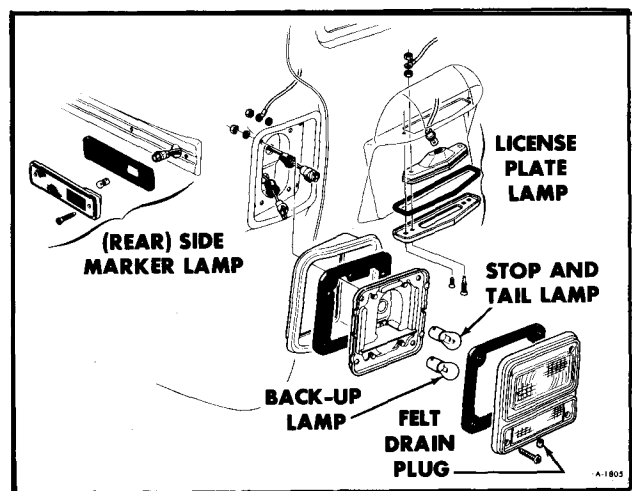

Figure 36—Tail, Stop, License and Rear Side Marker Lamps
### TAIL, STOP, BACK-UP AND DIRECTIONAL SIGNAL BULB REPLACEMENT (FIGURE 36)
1. Remove (4) lens retaining screws and remove defective bulb.
**NOTE:** Check for proper positioning of lamp assembly felt drain plug (See figure 36).
### LICENSE PLATE BULB REPLACEMENT (FIGURE 36)